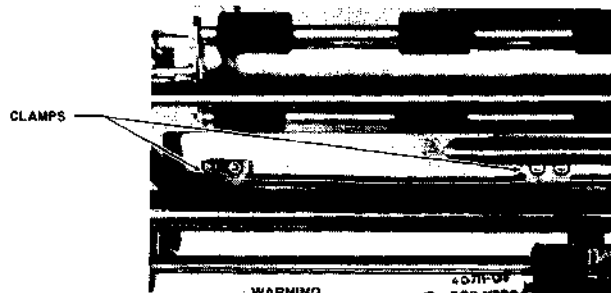

Figure 5-16 CABLE CLAMP REMOVAL
- 6a. Using the TORX T15 screwdriver, reach down behind the left end of the rear carriage rail and unscrew the four 6-32 x 1/2" screws holding the white plastic spring cable clamps to the bottom plate, as shown in Figure 5-16. Retrieve and store these screws. Reach down behind the right end of the rear rail and remove the large spring cable shield from the two spring clips holding it to the bottom plate.